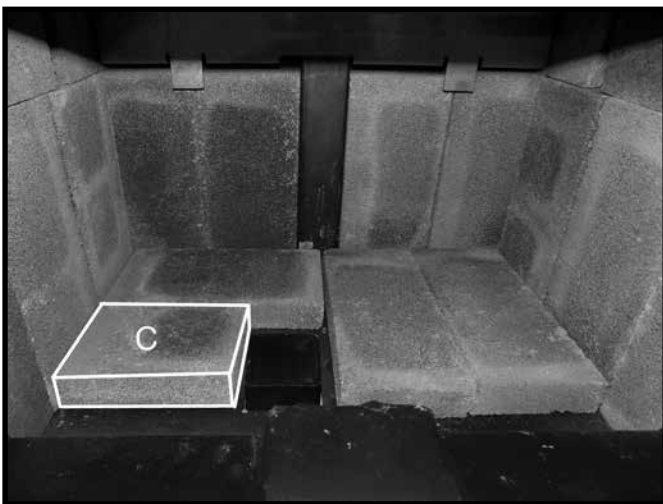

Figure 15. Fourth floor brick in place.
- Place the "C" firebrick so that it sits beside the ash dump, against the left-hand side wall and the "A" firebrick located directly behind the ash dump Figure 15. on page 13